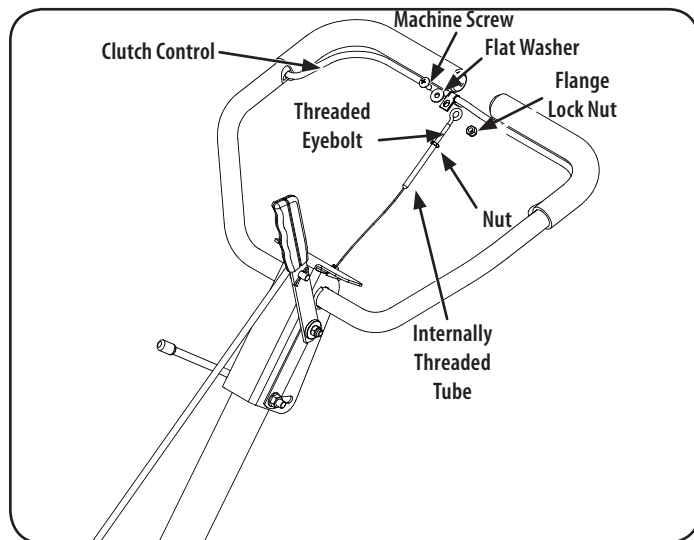

Figure 7
4. Remove the machine screw, flange lock nut and two flat washers from the clutch bail. See Figure 7.
6. Thread the eyebolt and nut removed earlier into the internally threaded tube at the end of the cable. The thread engagement should be about 3/4". Tighten the nut against the tube at the end of the cable. See Figure 7.